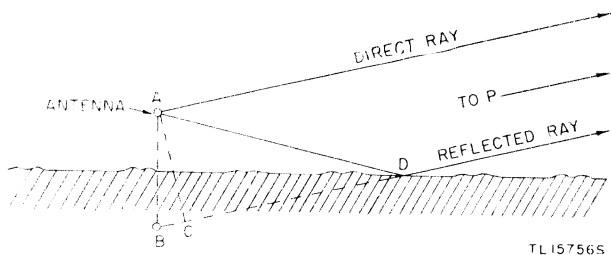

Figure 57. Ground reflection of radio waves leaving transmitting antenna.
c. GROUND EFFECTS. The earth acts as a reflector for those waves which are radiated from the antenna at angles lower than the horizontal (fig. 57). A radiated wave (A) that strikes the ground (D) at an angle of 15° is reflected upward from the surface of the ground at the same angle. The ground may also absorb a portion of the radiated energy. The reflected wave may combine with the direct waves to reinforce or partially cancel the direct or sky waves, depending on the position of the antenna with respect to earth, the height of the antenna, its length, and the condition of the ground (whether it is dry or wet). If the reflected and direct waves arrive (at P) or combine nearly in phase, there will be a reinforcement of the sky wave, and if they arrive out of phase, there will be partial cancellation of power and a decrease in the intensity of radiation.